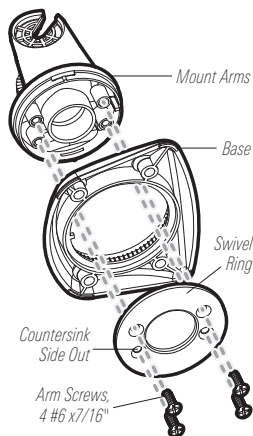

Figure 5
3. Secure the mount arms with the four #6 screws provided (Figure 5). **Hand tighten only!**